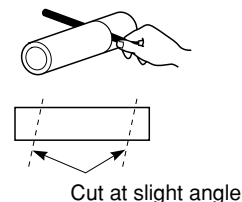

Fig. 3-64
- (5) Measure the thickness of the wall from the inside edge to the outside edge and cut the PVC pipe at a slight angle 6 mm shorter than the thickness of the wall. (Fig. 3-64)